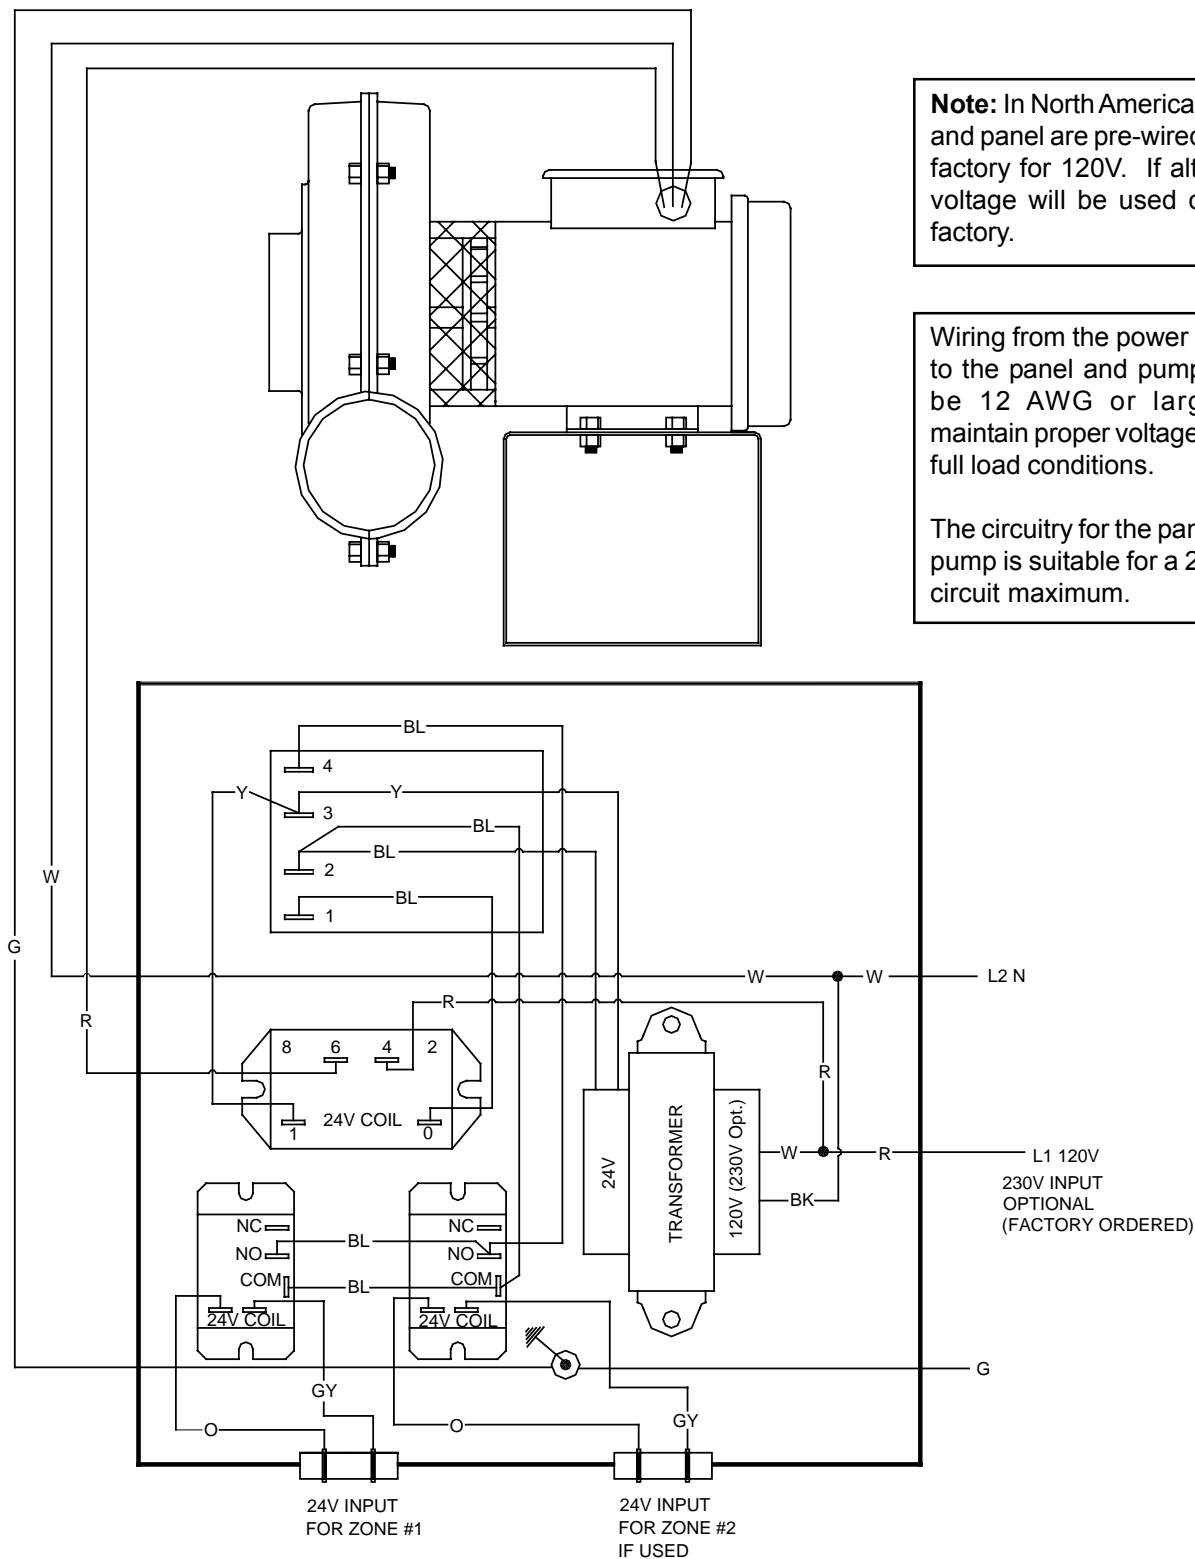

Figure 4-3
4. Figure 4-3 illustrates the wiring of a PB series pump assembly.